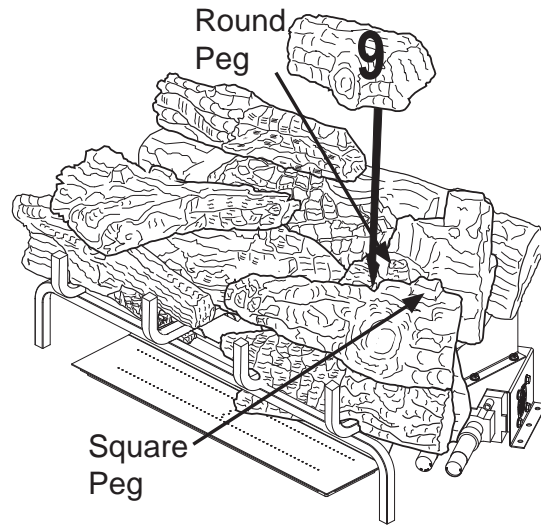

Figure 29 - Installing Log # 9
9. Place the top right log (#9) on top of the right rear chunk log (#7) and front right mid log (#8) as shown in **Figure 29**. Match the round peg on the top of the right rear chunk log (#7) with the round hole on the bottom of the top right log (#9) and square peg on the top of the front right mid log (#8) with the square hole on the bottom of the top right log (#9).